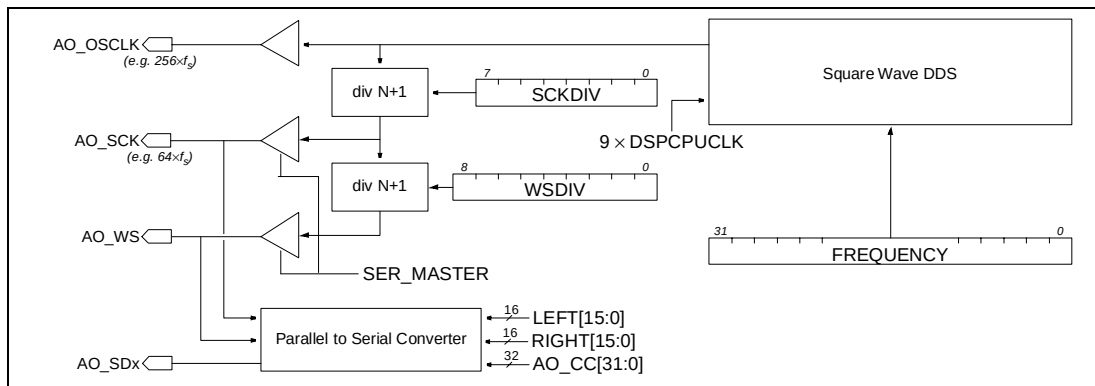

**Figure 9-1. AO clock system and I/O interface**
**Figure 9-1** illustrates the different clock capabilities of the AO unit. At the heart of the clock system is a square wave DDS (Direct Digital Synthesizer). The DDS can be
Some D/A converters however, like the AD1847, provide better SNR properties if they are configured as serial master, with the AO unit as slave (SER\_MASTER=0). As illustrated by Figure 9-1, the internal parallel to serial converter that constructs the serial frame is oblivious to which component is timing master.